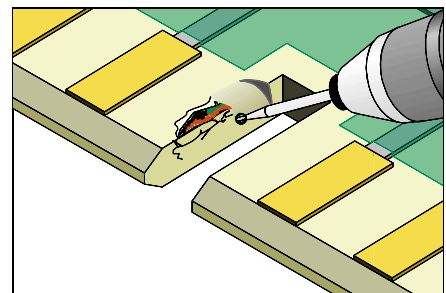

Figure 1: Mill away the damaged board base material using the Micro-Drill System and ball mill.
2. Mill away the damaged board base material using a Micro Drill System and ball mill. All damaged base board material must be removed. No fibers of laminate material should be exposed at the surface of the keyslot. (See Figure 1).